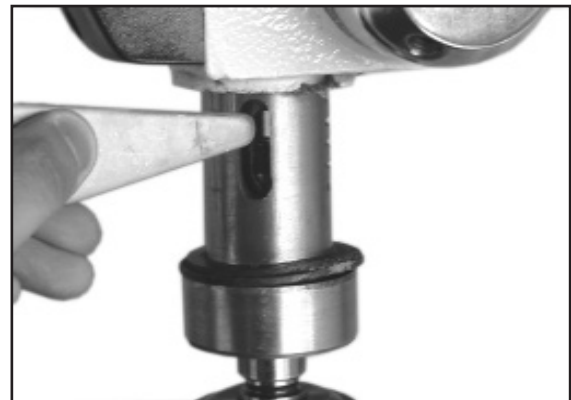

Figure 13
5. Insert the Drift-Key into the slot (Fig.13)